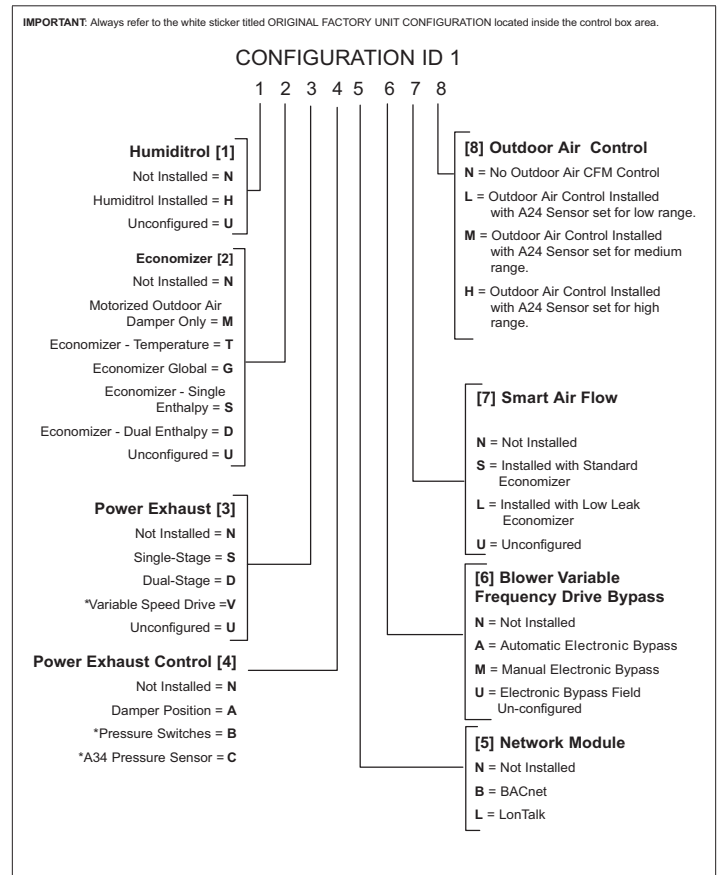
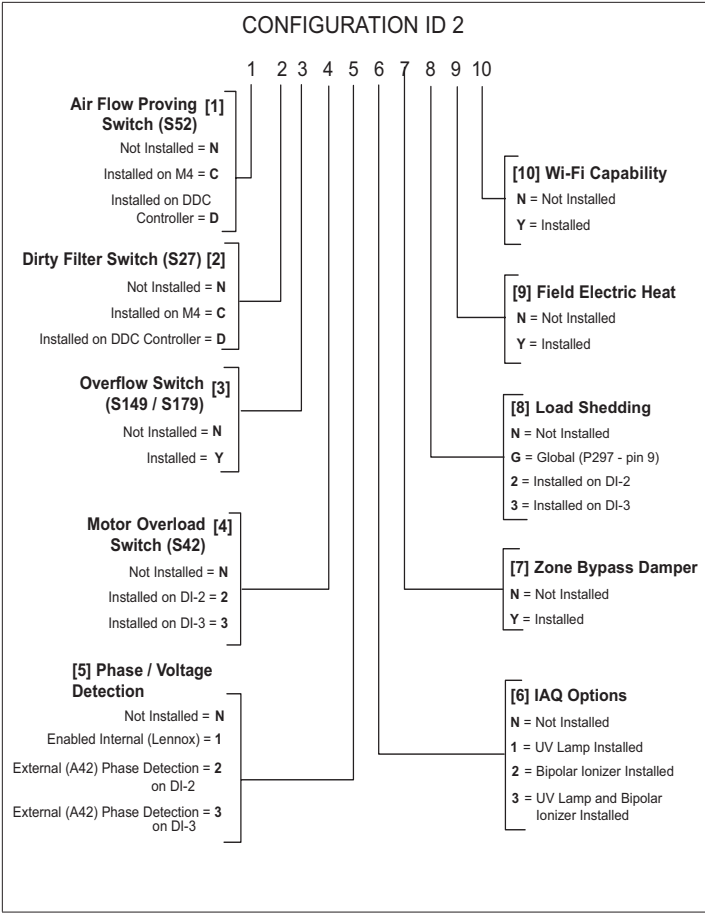

Figure 5. Configuration ID 1
Figure 6. Configuration ID 2
- Model Number (see “Figure 5. Configuration ID 1”) and serial number. Model, serial and catalog numbers are located on the RTU nameplate.
- RTU Information. Configuration ID 1 and 2 can be entered here. See figures “Figure 5. Configuration ID 1” on page 8 and “Figure 6. Configuration ID 2” on page 9 for further details.